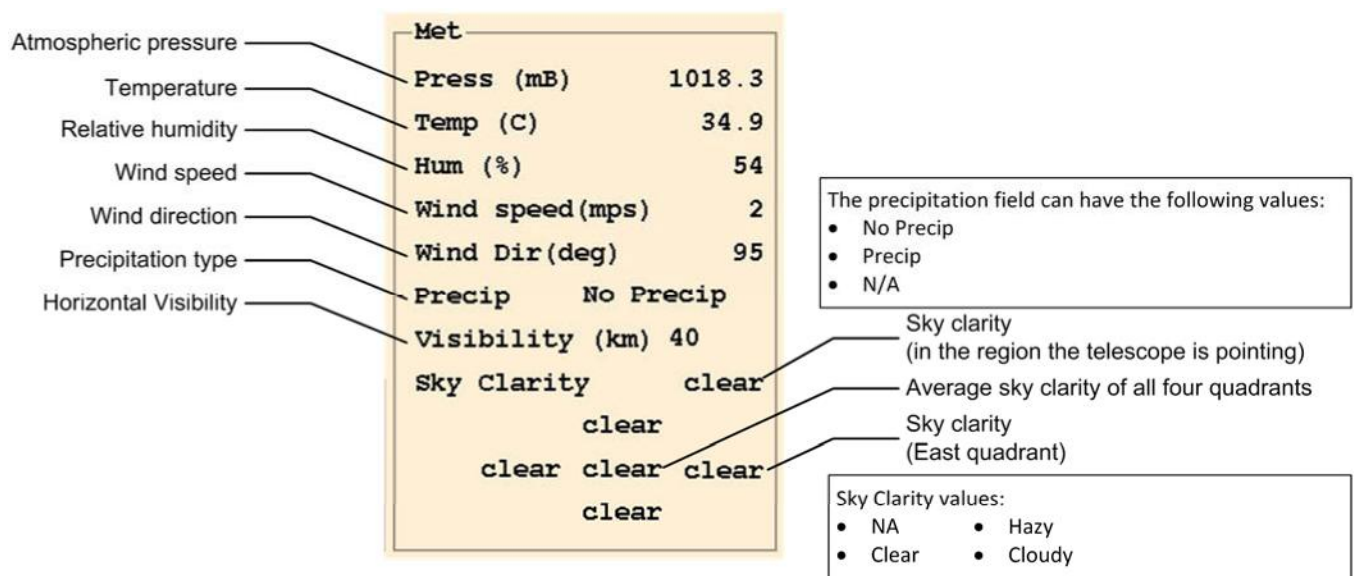

Figure 6-1: Labeled diagram of a portion of the Ratgui main window showing weather information
5. **Verify Weather Measurements** – Ensure that the meteorological data displayed accurately reflects current weather conditions outside the shelter (Figure 6-1). Note that if the values for Sky Clarity are NA, then most likely the Sky Camera software on the Camera computer is not running.